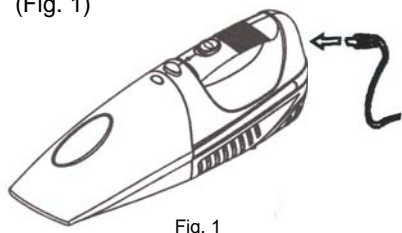

Fig. 1
**NOTE:** Peak performance may only be realized after the unit has been charged and discharged two (2) or three (3) times.
4. The charging indicator light will shine green to indicate that the vacuum cleaner being charged. (Fig. 1)